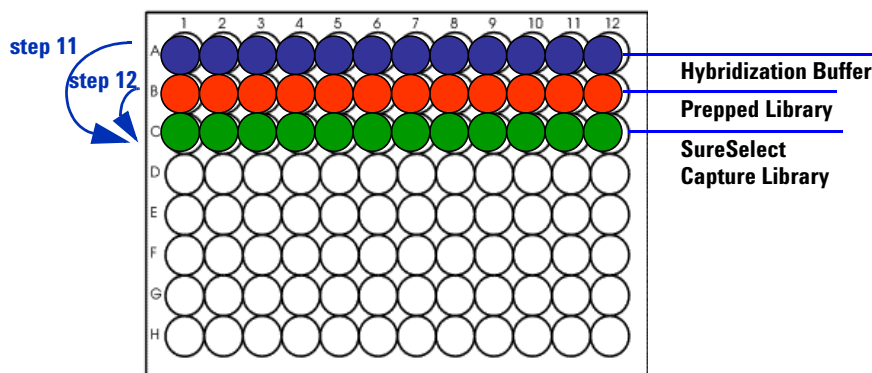

Figure 7 SureSelect Capture Library, or “Baits”, shown in Green
- 11** Maintain the plate at 65°C while you use a multi-channel pipette to take 13 μ L of Hybridization Buffer from the “A” row and add it to the SureSelect capture library mix contained in row “C” of the PCR plate for each sample. (See Figure 7.)
- 12** Maintain the plate at 65°C while you use a multi-channel pipette to transfer the entire contents of each prepped library mix in row “B” to the hybridization solution in row “C”. (See Figure 7.) Mix well by slowly pipetting up and down 8 to 10 times.